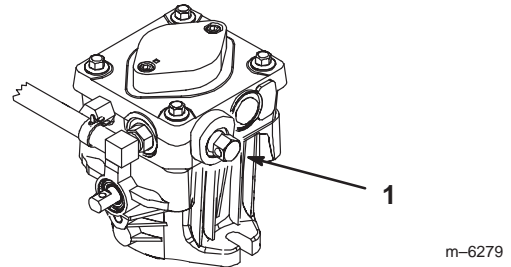

Figure 21
2. Rotate the bypass valves counterclockwise 1 turn to push. This allows the hydraulic fluid to bypass the pump, enabling the wheels to turn (Fig. 21).
Turn the bypass valves in to operate (Fig. 21).